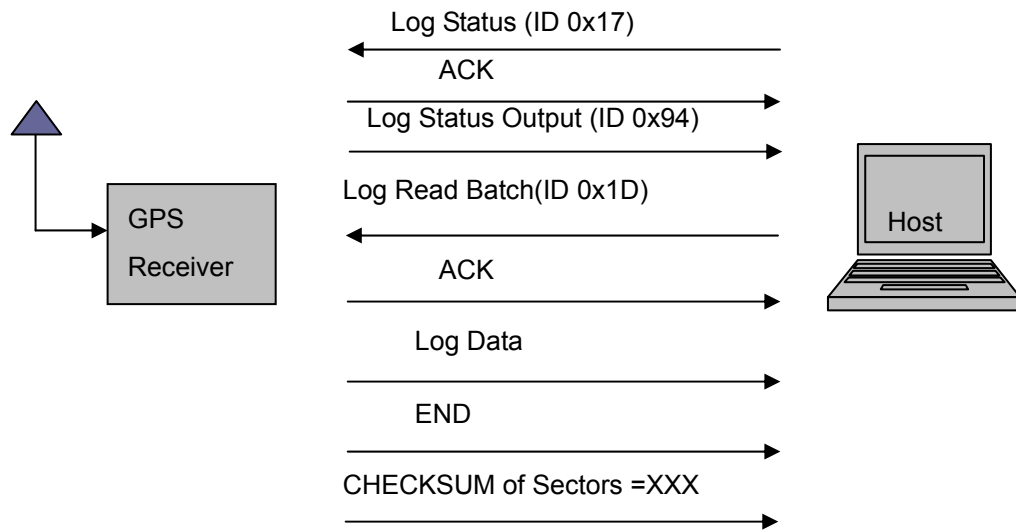

Figure 1
LOG Read Batch command (mentioned in section above) will launch a 3-step procedure: The first step is to get log status from receiver. The 2nd step is to set the communicate port to have higher baud rate. The third step is to get logdata data from receiver. The detailed procedure is elaborated as below. Please refer to Figure 1 & also SkyTraq API sources.
The “log data” read from SPI flash in Figure 1 is shown below as an example. The log data is a continuous stream of binary data. Users need to check the first byte to find out storage header type, hence its stored format and data length.
2. Update Figure 1.